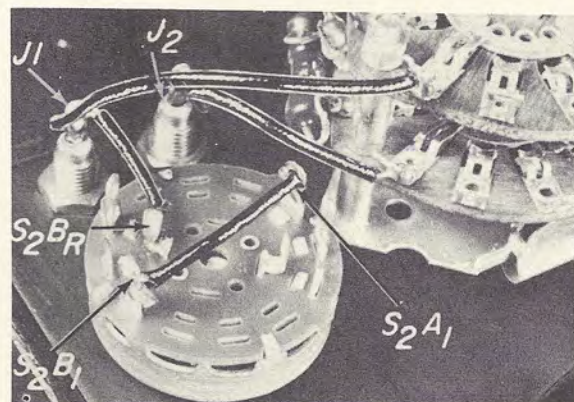

Fig. 3-13
Step 2. Solder one end to S_2A_1 and solder the other end to S_2B_1 , as shown in Fig. 3-13.